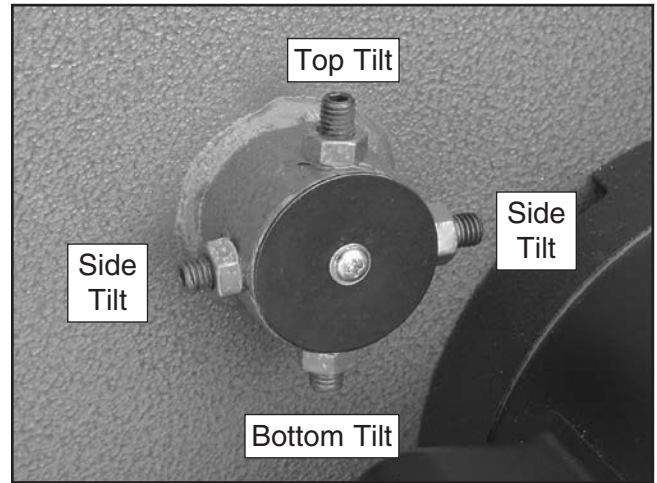

Figure 66. Lower wheel adjustment control.
7. If the wheels will go parallel but not coplanar, then move the lower wheel at the adjustment hub (**Figure 66**) as necessary.